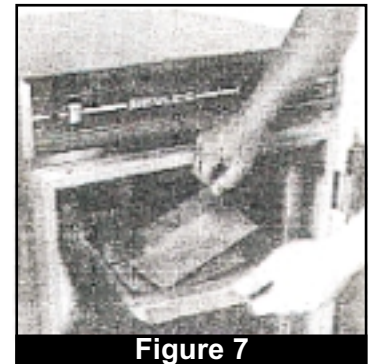

Figure 7
2. If humidity is desired, fill water pan % full of water and adjust baffles. (Fig. 7)